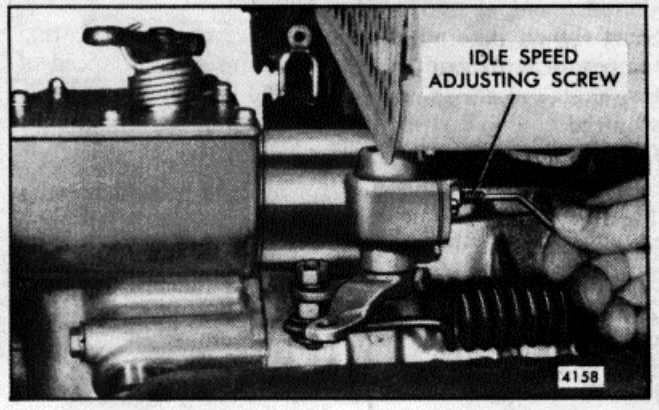

Fig. 12. - Adjusting Idle Speed
3. Loosen the locknut and turn the idle speed adjusting screw until the engine is operating at approximately 15 rpm below the recommended idle speed (Fig. 12). The recommended idle speed is 550 rpm, but may vary with special engine applications.